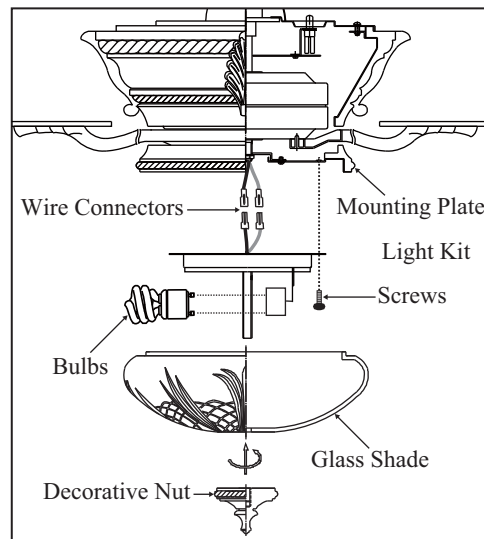

Figure 19
2. Raise and hold the light kit close to the mounting plate and proceed to do the wire connections. Connect the white wire connectors from the light kit and fan, follow the same procedure with the black wire connectors. Place the light kit key holes over the 2 screws previously loosened from the mounting plate, turn light kit until it locks in place at the narrow section of the key holes. Secure by tightening the 2 screws previously loosened and one previously removed. (Fig. 19)
4. Raise the glass shade to the light kit and secure tightly with the decorative nut. DO NOT OVERTIGHTEN. (Fig. 19)